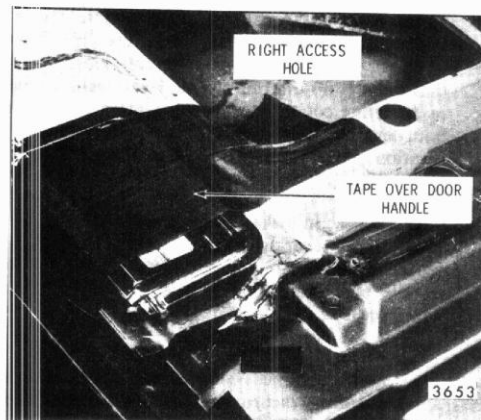

Fig. 9-39-Inside Handle (Door Operation)
3. Place tape over door lock handle, as shown in Figure 9-39, to prevent accidental operation of lower right lock after upper locks have been manually locked as outlined below.